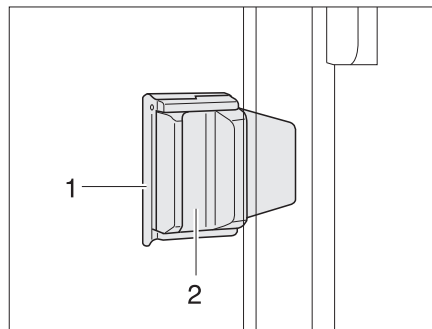

Fig. 60 Sliding window with slide lock
- Pull out the lock (Fig. 60,1).
- Press handle (Fig. 60,2) and push it forward or backward at the same time.
- Turn the locking knob (Fig. 60,1) into the vertical position.